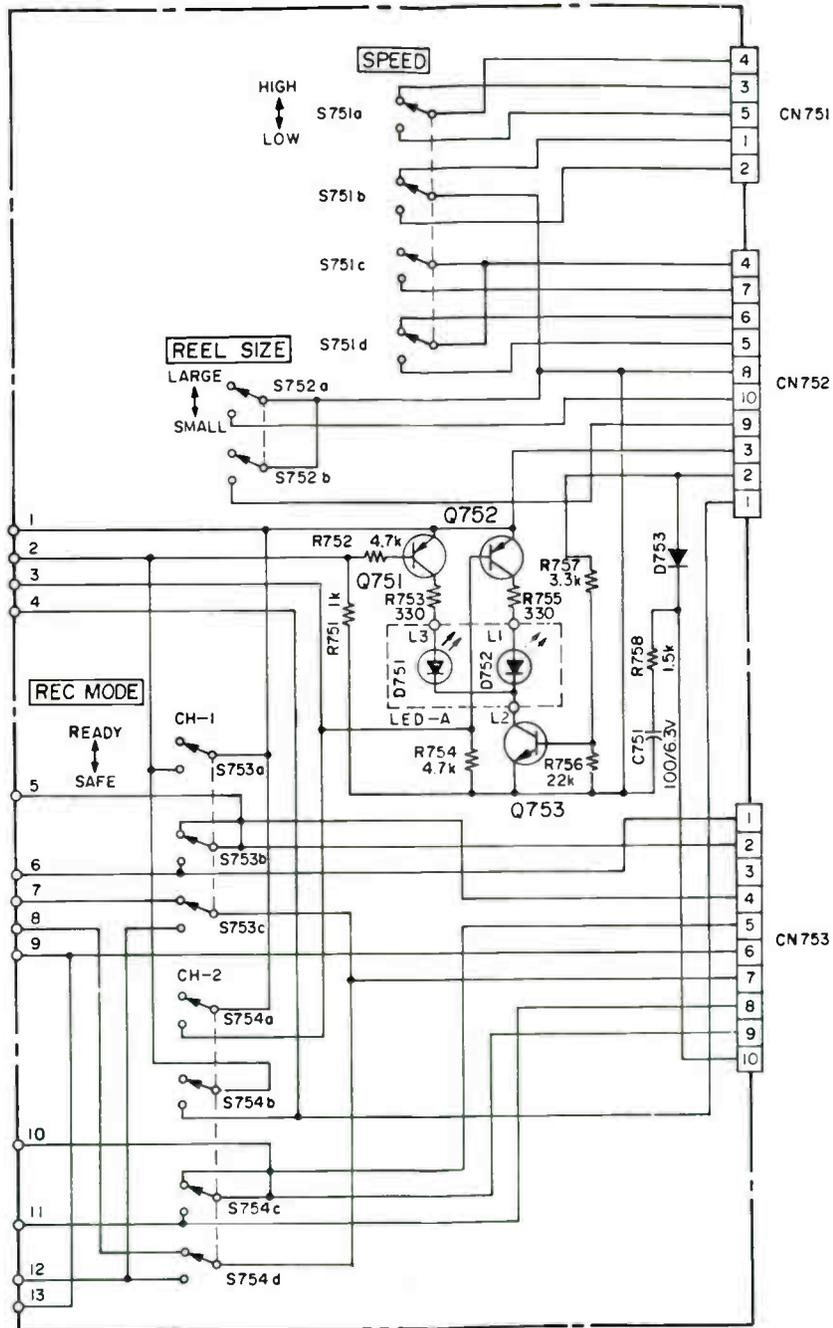

Figure 4-4. Switchboard A Schematic
- RECORD mode switches for channel 1 (S753) and channel 2 (S754) are both in the SAFE position (see Figure 4-4 for switchboard A schematic).
Refer to switchboard A schematic, Figure 4-4. When the REEL hub size selector switch (S752) is set to the SMALL position, the following events occur: